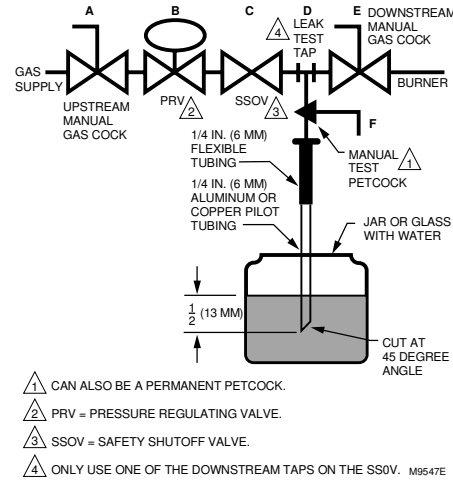

Fig. 4. Valve Leak Test.
Instructions for testing tightness closure of gas safety shutoff valves on burner startup (by qualified personnel). See Fig. 4.
1. De-energize control system to assure no power to the safety shutoff valve. (C)
2. Close upstream manual gas cock. (A)
3. Make sure manual test petcock (F) is closed in leak test tap assembly. (D)
4. Remove leak test tap plug and connect test apparatus to leak test tap (D) as shown in Fig. 4.
5. Close downstream manual gas cock. (E)
6. Open upstream manual gas cock. (A)
7. Program safety shutoff valve (C) to fully open position (through safety system); then immediately de-energize to seat valve operationally.
8. Immerse 1/4-inch tube vertically 1/2 inch into jar of water as shown in Fig. 4.
9. Slowly open test petcock. (D)